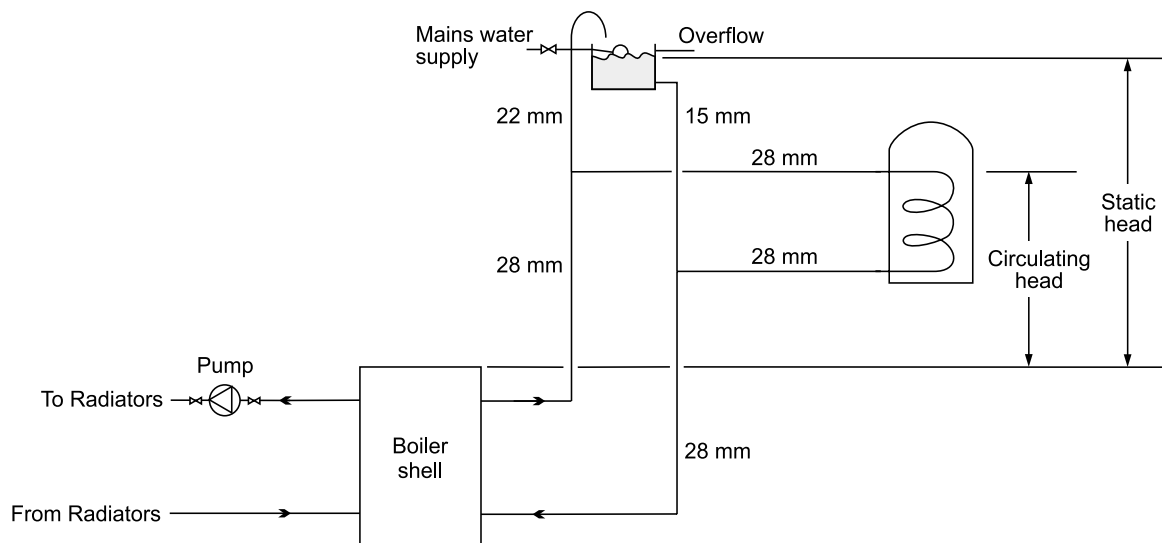

Fig. 12 - Gravity domestic hot water system
See Figs. 12, 13 and 14
3.13.1 Gravity domestic hot water - (See Fig. 12)